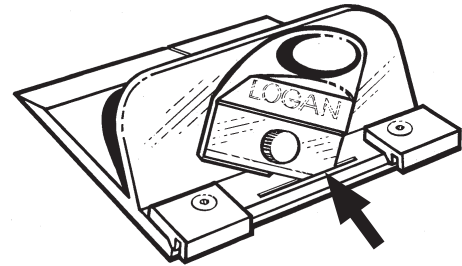

Fig. 4
**NOTE:** Adjust blade to foamboard (fully extended), standard mat board (middle setting) or safety (fully retracted) **(Fig. 4)**.